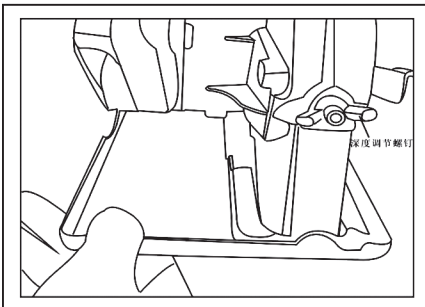

Fig 3
1. Loosen the clamping screw on the depth guide and move the base up or down. At the desired depth of cut, secure the base by tightening the clamping screw.(Fig 3)